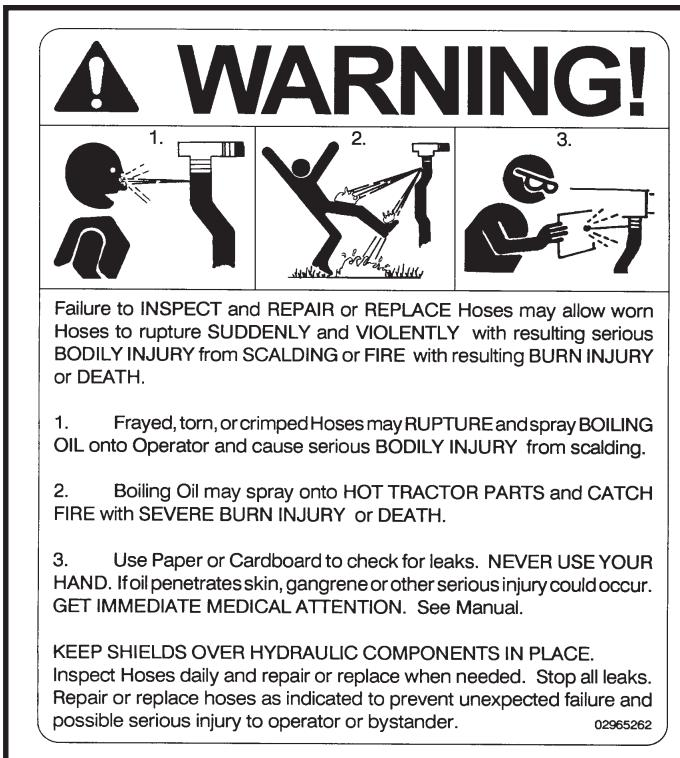

Figure 2
7. Avoid hydraulic contamination by filtering the hydraulic oil while filling the hydraulic tank. Filter buggies or carts are commercially available for hydraulic system cleanup. These consist of a high-efficiency, high-capacity filter, a circulating pump, a drive motor, and hoses for connecting to the overhauled machine's hydraulic system. (**See Figure 2 & 3**)